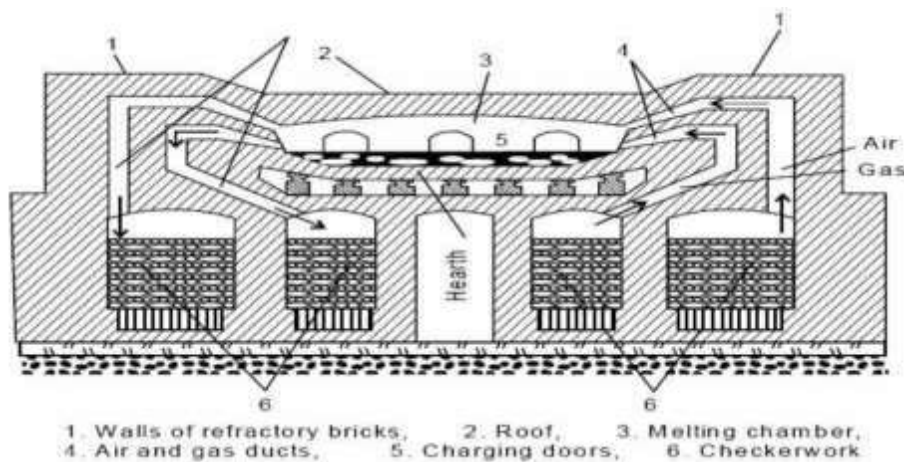

Fig. 2.2 Open hearth furnace
- The hearth is surrounded by roof and walls of refractory bricks as shown in Fig. 2.2. The charge is fed through a charging door and is heated to 1650°C mainly by radiation of heat from the burning of gaseous fuels above it.